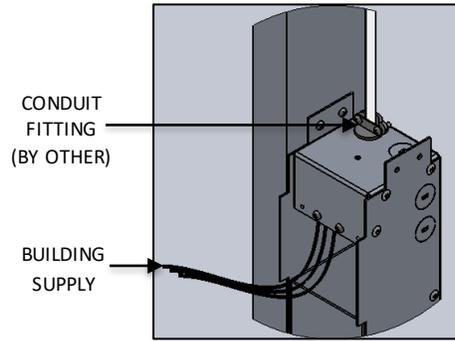

FIG. 11- DETAIL SHOWING BUILDING SUPPLY AND CONDUIT FITTING
- Attach appropriate 1/2" CONDUIT FITTING to knockouts and run building supply connections into the box. make sure to pull the wires out through the square opening as shown below in FIG. 11 & 12.